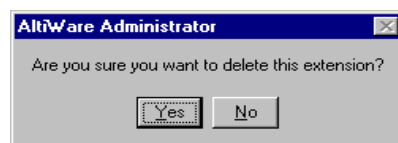

Figure 4-2. Extension Configuration Screen - Delete Extension Warning
2. Select the **Delete** button. The screen in Figure 4-2 appears, asking you if you really want to delete the selected extension number.